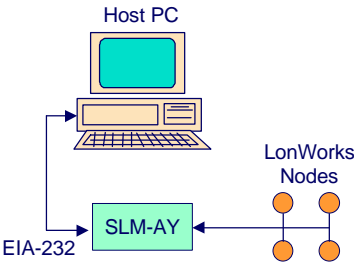

Figure 5. SLM/AY used as a LonWorks NSI or NI
The SLM/AY SiteLync can also operate as a serial (EIA-232) LonWorks Network Services Interface (NSI) or Network Interface (NI) as shown in Figure 5.